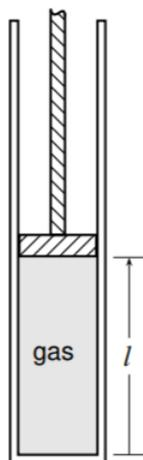

Figure 3.24
3.5 This problem is designed to test the assertion on page 60 that for typical thermodynamic processes in which the elevation of the center of mass changes, it is usually a good approximation to set  $w$  equal to  $w_{\text{lab}}$ . The cylinder shown in Fig. 3.24 on the preceding page has a vertical orientation, so the elevation of the center of mass of the gas confined by the piston changes as the piston slides up or down. The system is the gas. Assume the gas is nitrogen ( $M = 28.0 \text{ g mol}^{-1}$ ) at 300 K, and initially the vertical length  $l$  of the gas column is one meter. Treat the nitrogen as an ideal gas, use a center-of-mass local frame, and take the center of mass to be at the midpoint of the gas column. Find the difference between the values of  $w$  and  $w_{\text{lab}}$ , expressed as a percentage of  $w$ , when the gas is expanded reversibly and isothermally to twice its initial volume.